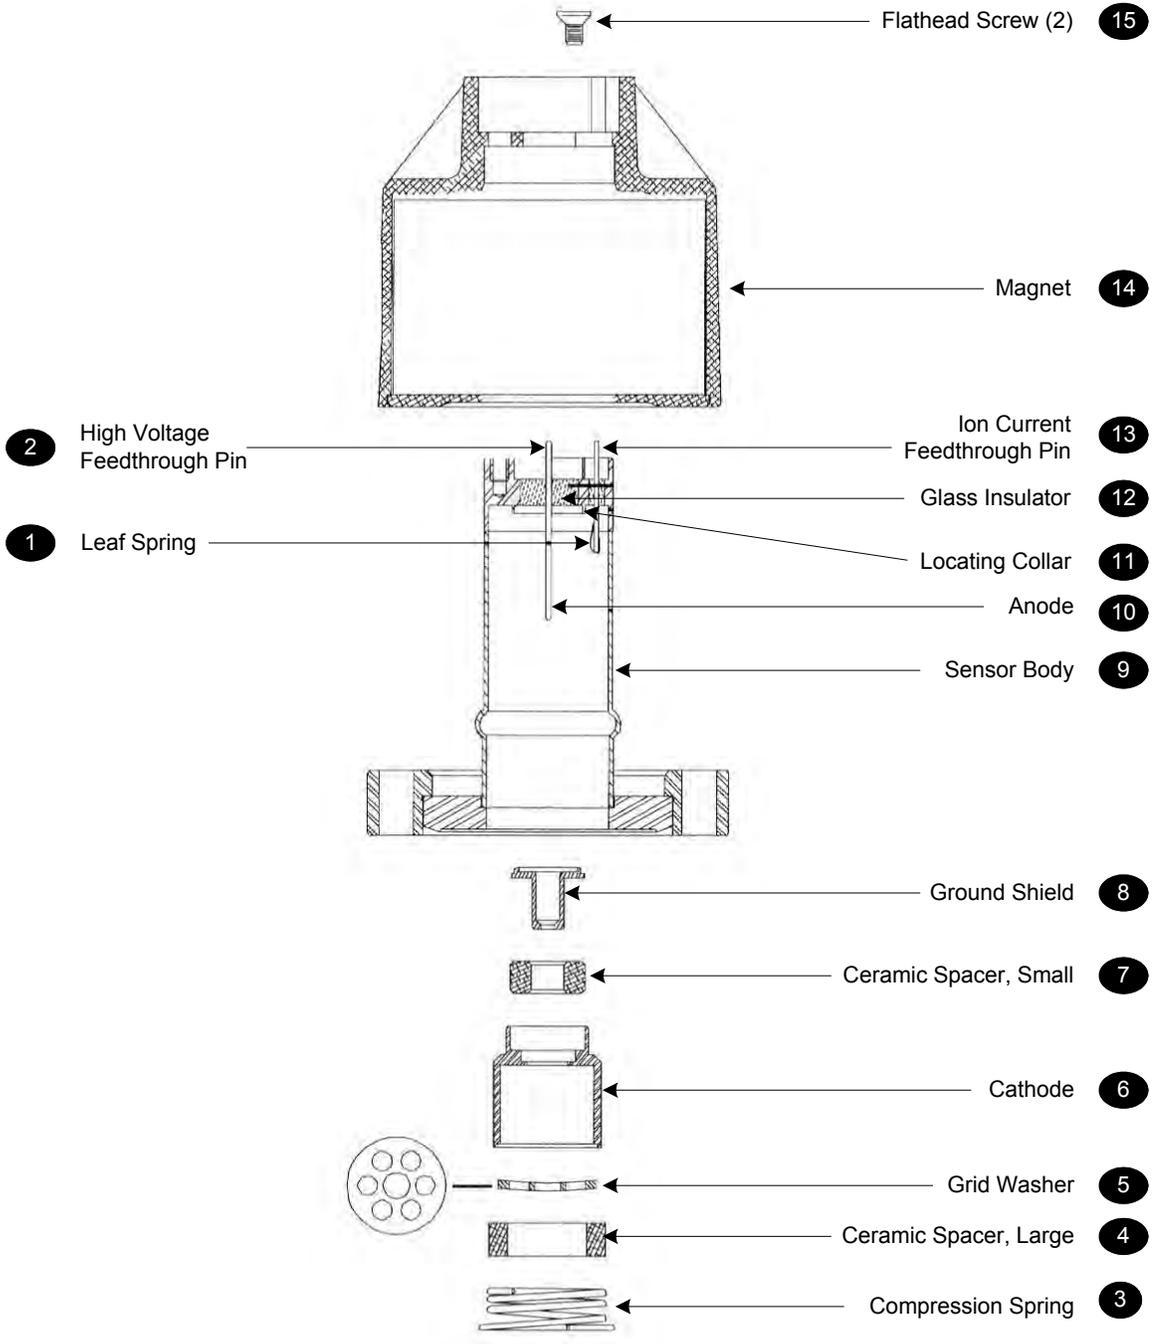

Figure 11-4 Exploded View of the Series 423 I-Mag Cold Cathode Gauge Sensor
4. Loosen the two flat head screws **15**. See *Figure 11-4*.
Even a small amount of voltage can damage the small diameter sensing or filament wire inside the Convector sensor. To determine if the sensing wire inside a Convector has been damaged, use a low-voltage (maximum 0.1 V) ohmmeter to check resistance values across the pins on the base of the sensor. Pin numbers are embossed on the base. The resistance across the pins should be within the ranges listed in Figure 11-4. If resistance across pins 1 and 2 is not approximately 20 to 30 Ω or if other listed resistance values are greater than the listed values, the sensor tube is defective.